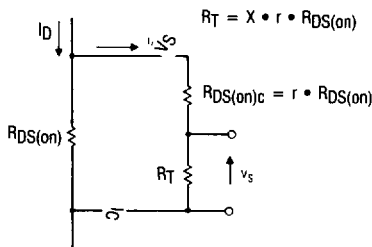

Figure 4. Evaluation of Error Introduced by R_T
The sense ratio of the circuit will vary from the nominal sense ratio due to the introduction of R_T . With reference to Figure 4, assuming that R_T is a share of (X) of the on-resistance of the sensing cells, which, in turn, is r times the $R_{DS(on)}$ of the main device,
With reference to Figure 4,